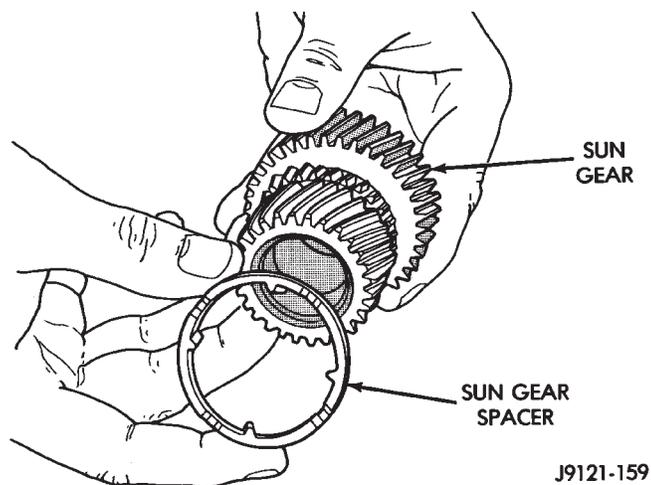

Fig. 195 Installing Spacer On Sun Gear
(7) Install spacer on sun gear (Fig. 195).